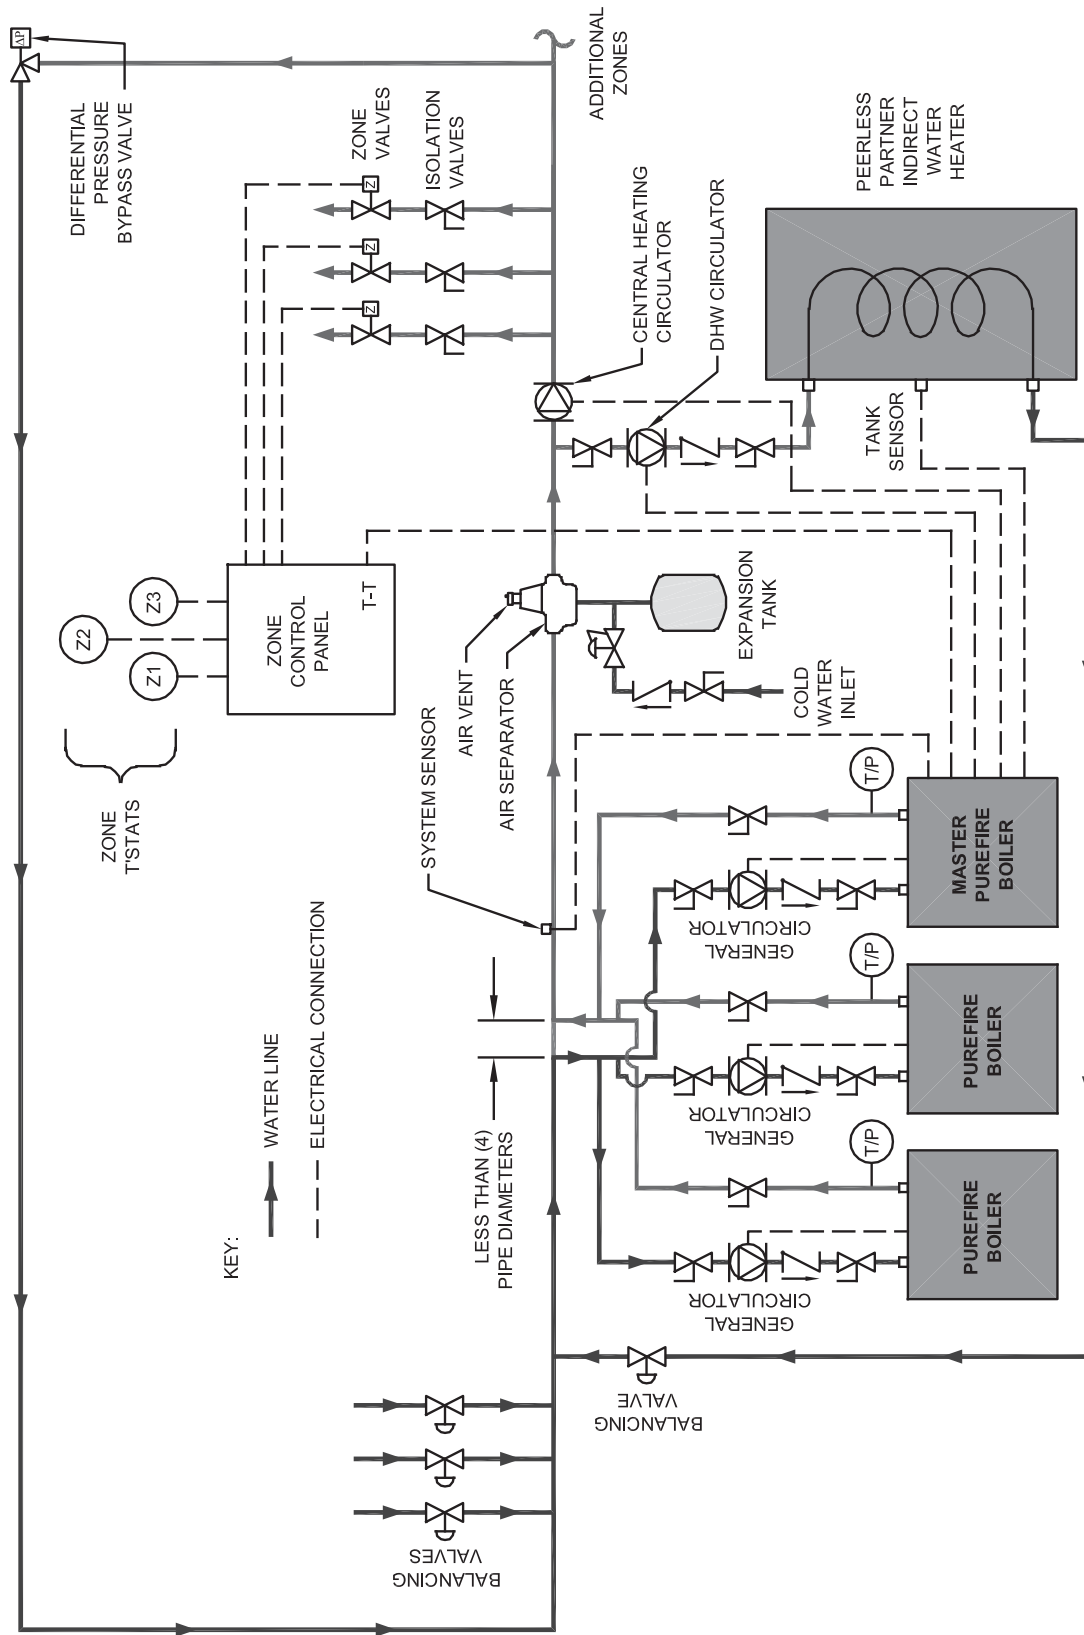

Figure 8.4: Multiple Boiler (Cascade) Piping / Electrical Connections for Systems with Zone Valves
See Figure 8.4 for typical resistance of the boiler sensors.
1. *PUREFIRE*® boiler controls can operate together to control up to 16 boilers for one central heat or domestic hot water demand. Only the addition of a system sensor (54156) is required to provide this operation. The System Sensor must be placed on the Primary loop downstream of the Boiler loop for proper Cascade operation. See Figure 8.4 and 8.5 for examples of System sensor location.
- Figure 8.4 shows a typical system which uses a CH circulator, a DHW circulator and zone valves to distribute the heating load to the building.